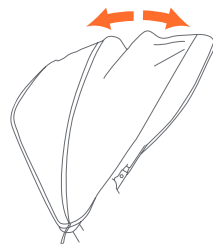

Fig. 8b
- **To open the canopy:** push forward on the front edge of the canopy while holding the rear of canopy in place (Fig. 8b).
- **To fold the canopy:** pull backwards on the front edge (Fig. 8b).